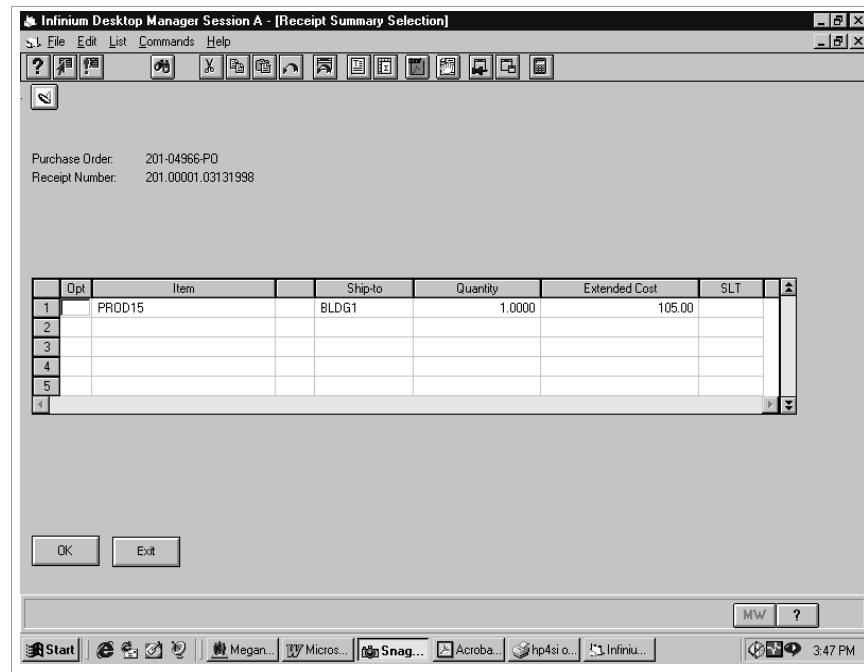

Figure 5-15: Receipt Summary Selection screen
- 2 Select **Work with** or type **5** and press Enter. The system displays the screen shown in Figure 5-15.